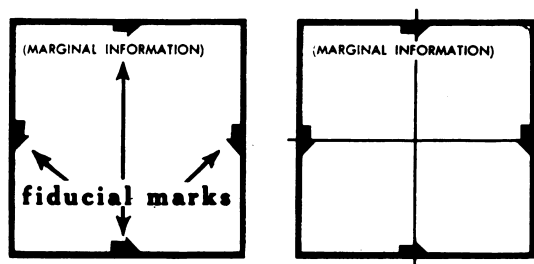

Figure 2
2. Using a straightedge, connect opposite fiducial marks (fig. 2).